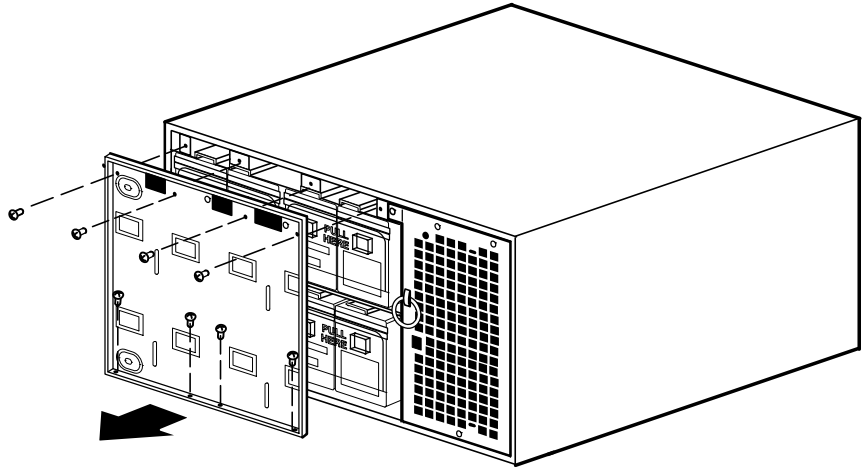

Figure 56. Removing the UPS Battery Cover Plate
- Remove the eight screws on the battery cover plate and retain. Remove the plate. See Figure 56.
10. Remove the eight screws on the battery cover plate and retain. Remove the plate. See a similar removal in Figure 56 on page 92.